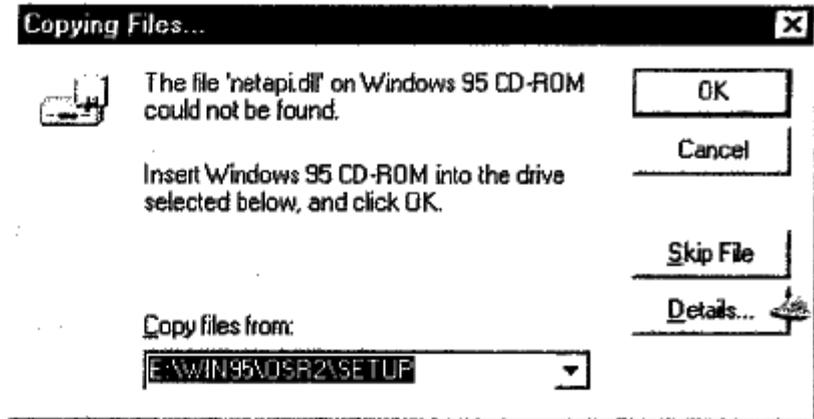

Figure 3-6
8. In the "Copying Files" dialog box. Enter the location of "Windows 95 CD-ROM" as shown Figure 3-6, and click "OK".